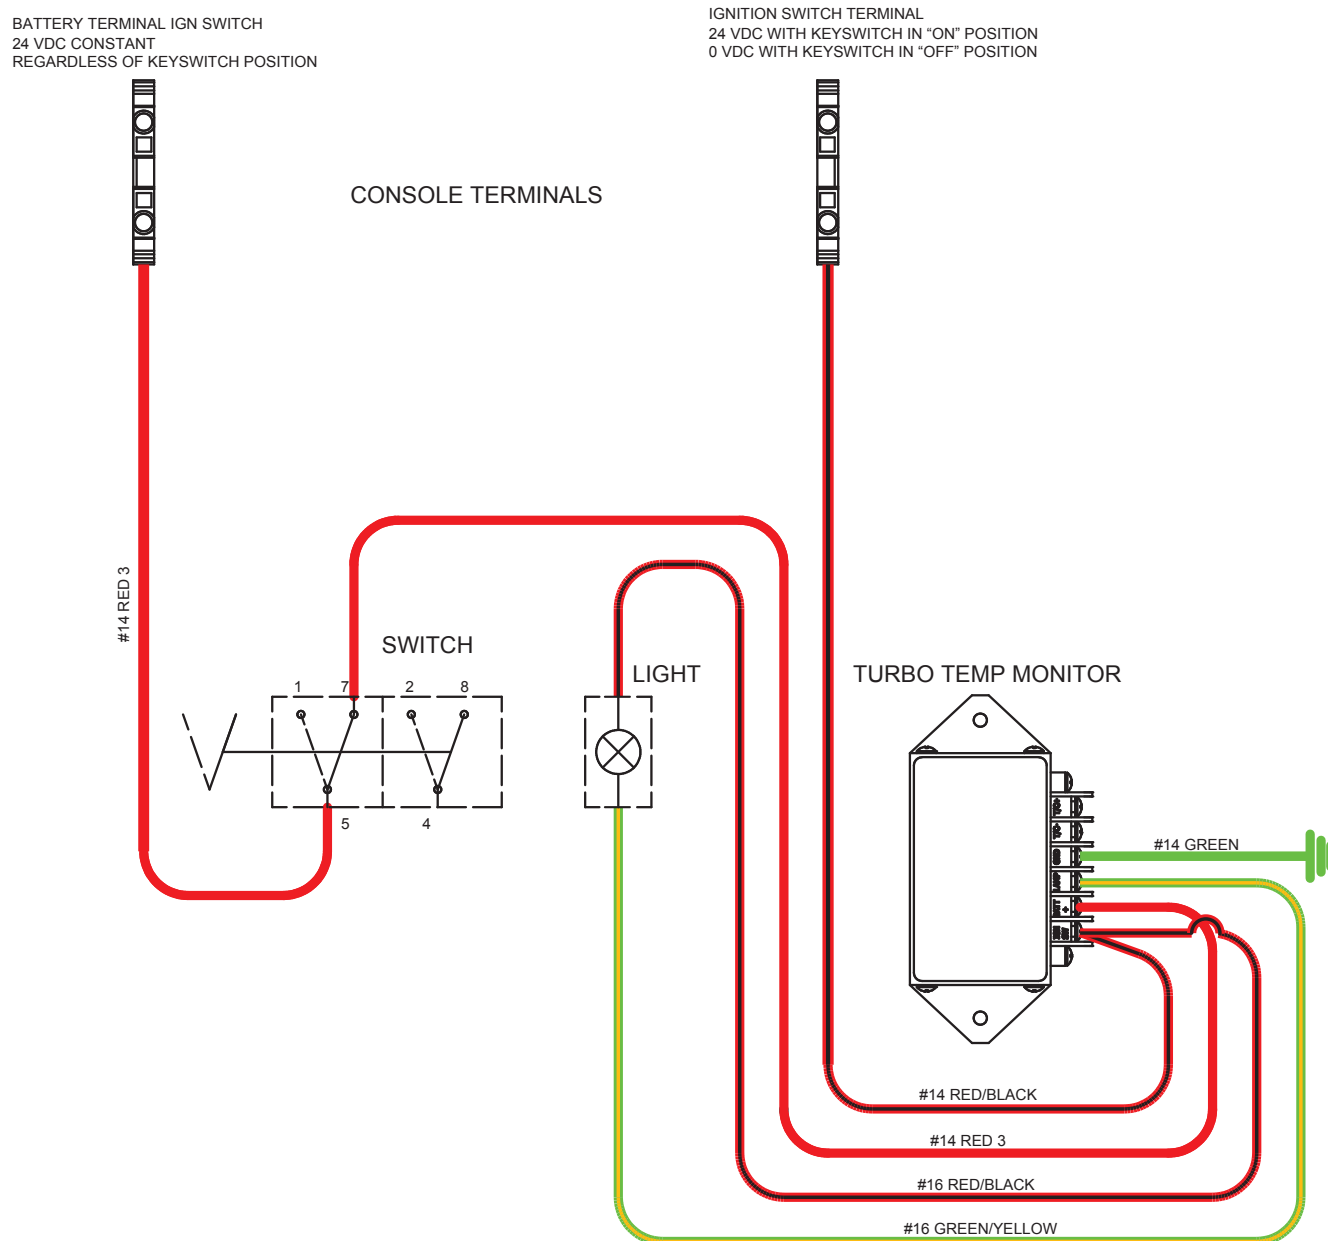

Figure 6 Install Wire Harness 590973
Step 6. Install Wire Harness 590973 between the Turbo Temp Monitor and the Switch as shown in **Figure 6**. Use cable ties provided in kit to restrain wiring as needed.